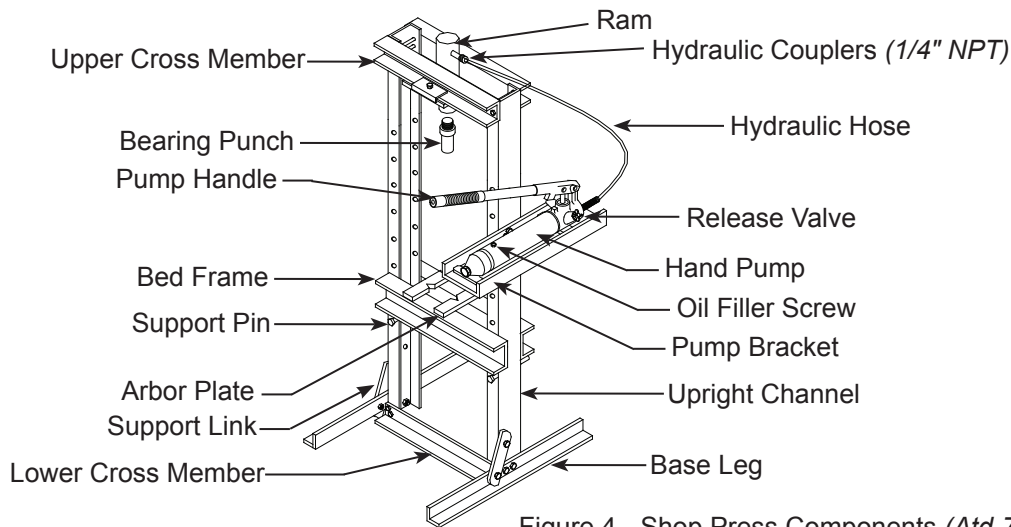

Figure 4 - Shop Press Components (Atd-7455 shown)
1. Place pump at a higher elevation than the hose and ram as shown in figure 4.